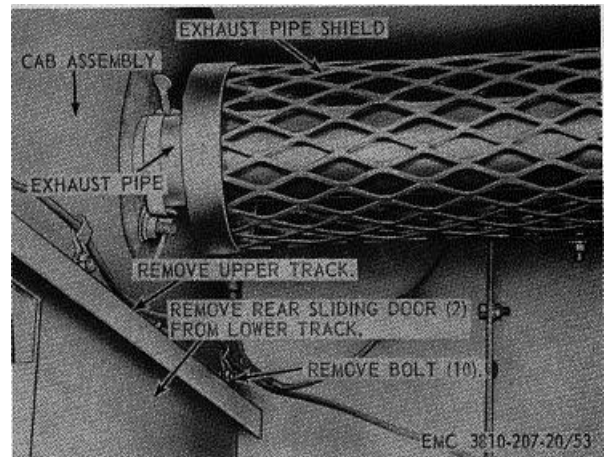

Figure 53. Rear sliding doors, removal and installation.
a. *Removal.* Remove the rear sliding doors as instructed on figure 53.
- (1) Clean all parts with an approved cleaning solvent.
- (2) Inspect the doors and tracks for bends, breaks, and other damage. Repair or replace defective doors.
c. *Installation.* Install the rear sliding doors as illustrated on figure 53.